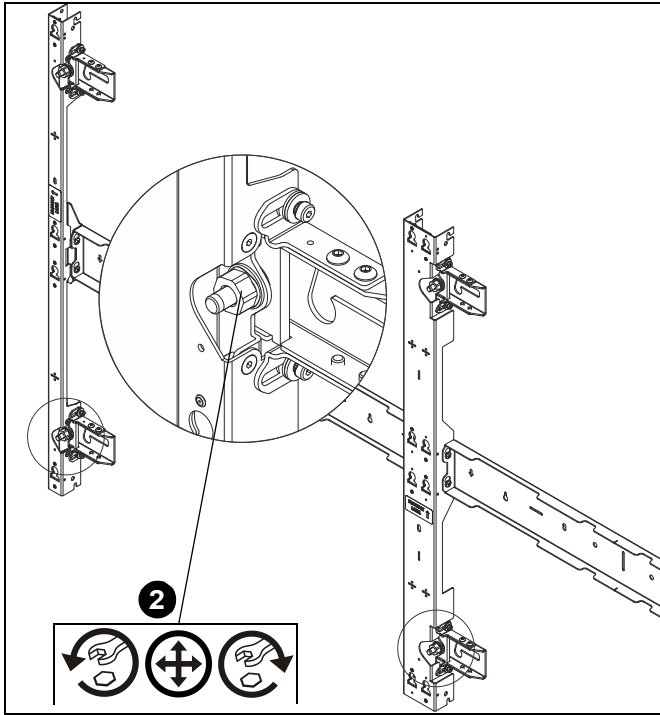

Figure 23
1. Turn 3/4" hex nuts near feet of mounting system to adjust depth as needed. (See Figure 23)